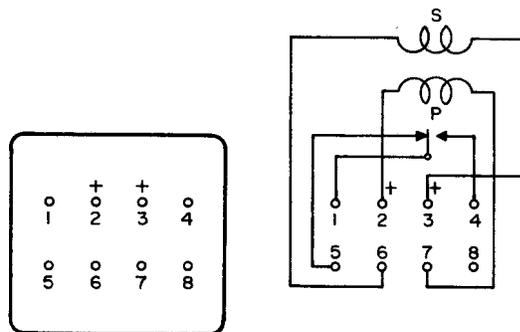

Fig. 74 - Winding and Spring Terminal Numbering - 314-Type Relays
2.80 As viewed from the rear, the winding and contact terminals are arranged in two horizontal rows of 4 terminals each. The upper row of terminals is numbered 1 through 4 starting at the left. The lower row of terminals is numbered 5 through 8 starting at the left as shown in Fig. 74.